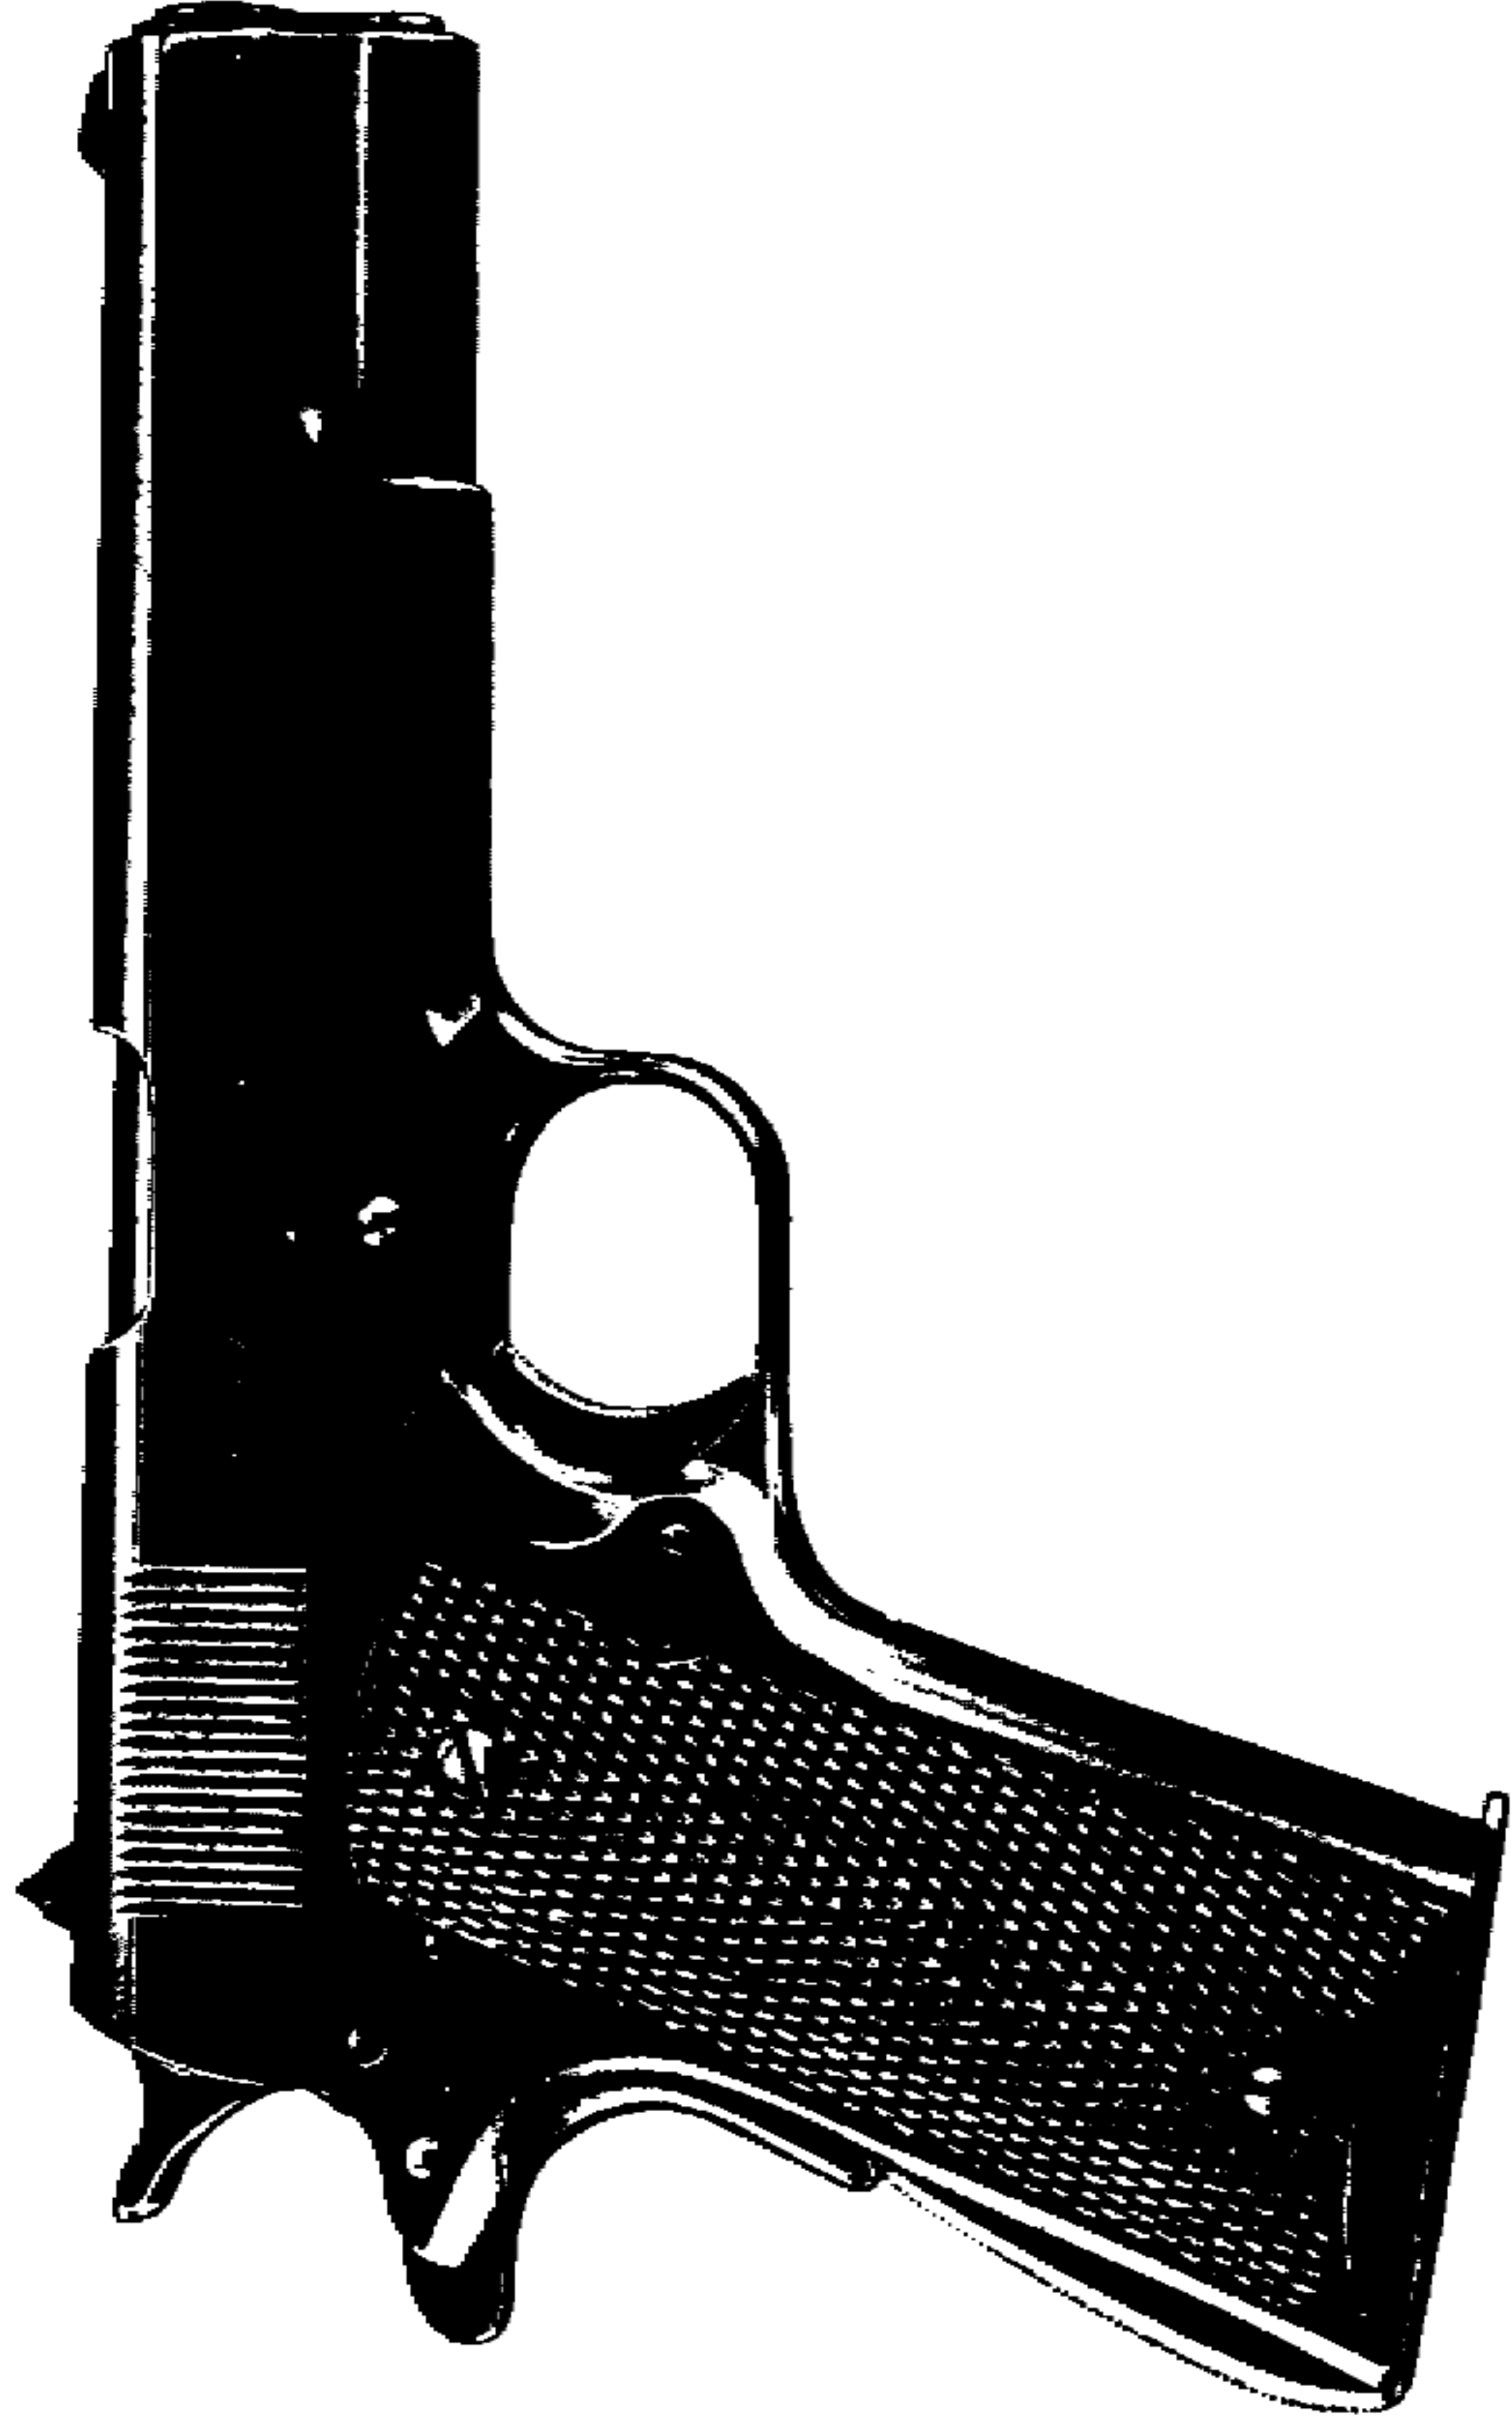

Figure 1 — Right Side of Pistol M1911A1
a. The Automatic Pistols, Cal. .45, M1911 and M1911A1, are recoil-operated, magazine-fed, self-loading hand weapons (figs. 1, 2, and 3). The gas generated from a cartridge fired in either pistol is utilized to extract and eject the empty cartridge case, cock the hammer, and force the slide to the rearmost position, thereby compressing the recoil spring. The action of the recoil spring forces the slide forward. This feeds a live cartridge from the magazine into the chamber leaving the weapon ready to fire again.